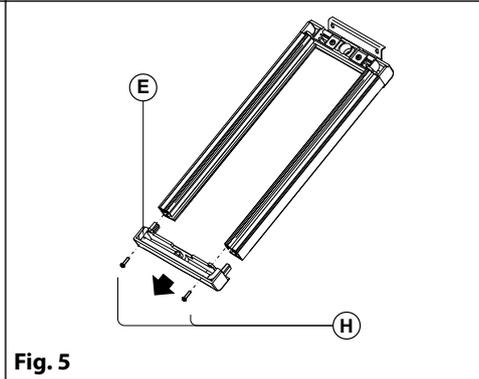

Fig. 5
5. Remove the fixing screws **H (Fig. 5)** and remove the plastic cover **E (Fig. 5)** of the module support;